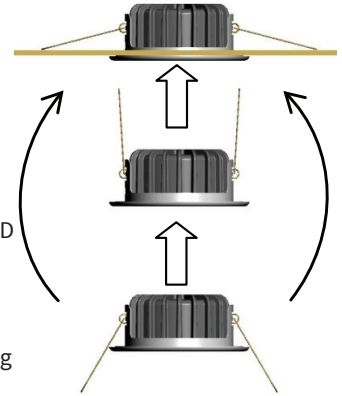

Figure 1
3. Once all electrical connections are made and secure, gently bend back the mounting springs of your PowerLED and insert the spring tips into the cutout circle in the mounting surface. (See Figure 1)
4. Gently push the light into the mounting hole allowing the springs to come to rest on the inside of the surface, holding the light in place. (See figure 1)